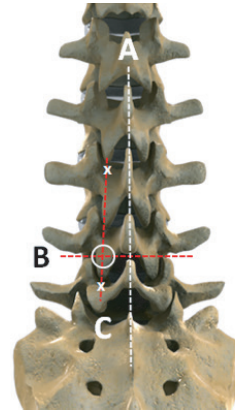

Figure 6
Using a K-wire or similar tool, locate the midline of the spine, the inferior endplate of the superior vertebral body being treated (B), and a line connecting the medial borders of the pedicles of the levels above and below the level being treated (C) (Figure 6).